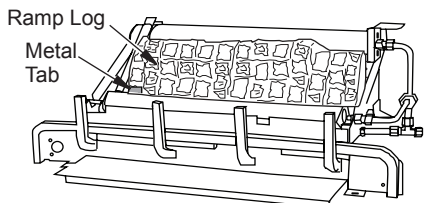

Figure 48 - Installing Fiber Ramp Log
2. Place fiber ramp log in center of chassis as shown in Figure 48. The fiber ramp log can be identified by the shape and much lighter weight when compared to the other logs. The log must sit flat on the black sheet metal and behind the left metal tab as shown. Make sure the side marked "BOTTOM" is setting down.